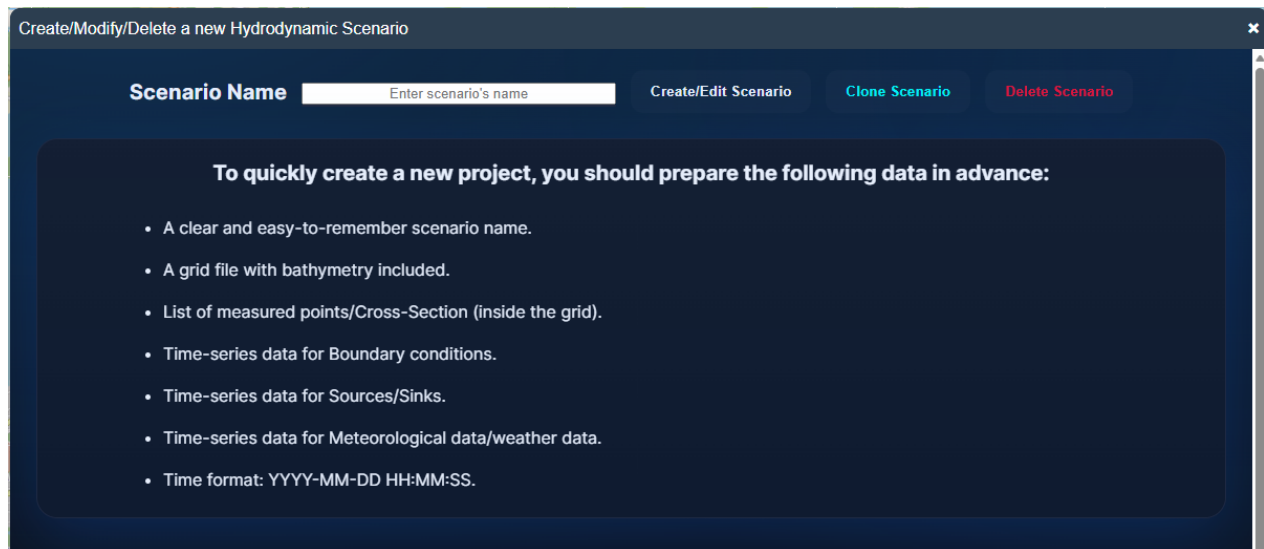

Figure 3.1. Create a new scenario
- Open HYD Editor: *Project Management/HYD Scenario*. This window also allows you to create a new scenario, open an existing scenario to modify, clone an existing scenario, and delete a scenario (Figure 3.1).